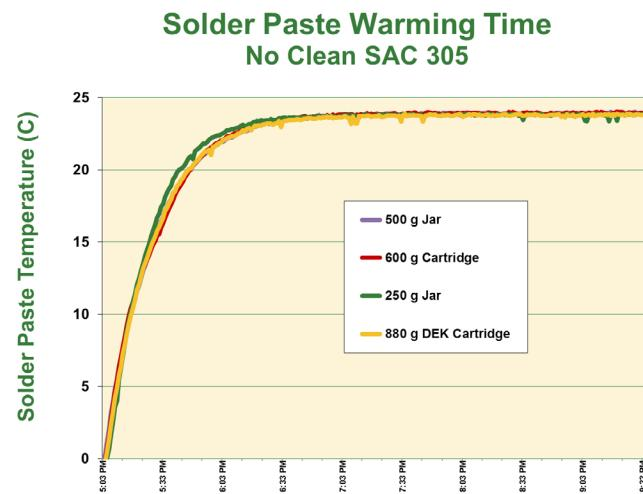

FIGURE 2. No-clean SAC 305 solder paste warming time.
3. Permit paste to warm to ambient temperature naturally. Do not force warming by placing the paste on or near a hot machine surface and do not open the jar. Solder paste that is below the dew point of the manufacturing area will condense moisture. When moisture is added to the metal and chemicals that constitute solder paste, the performance will degrade. **FIGURE 2** shows the warming time from refrigerated to ambient in an air environment.